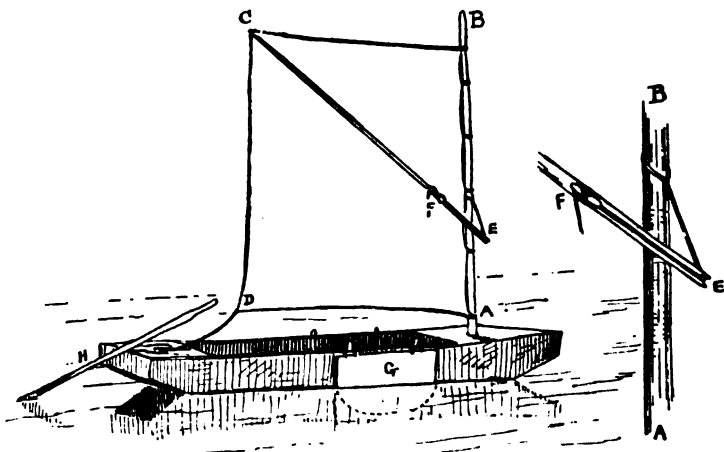
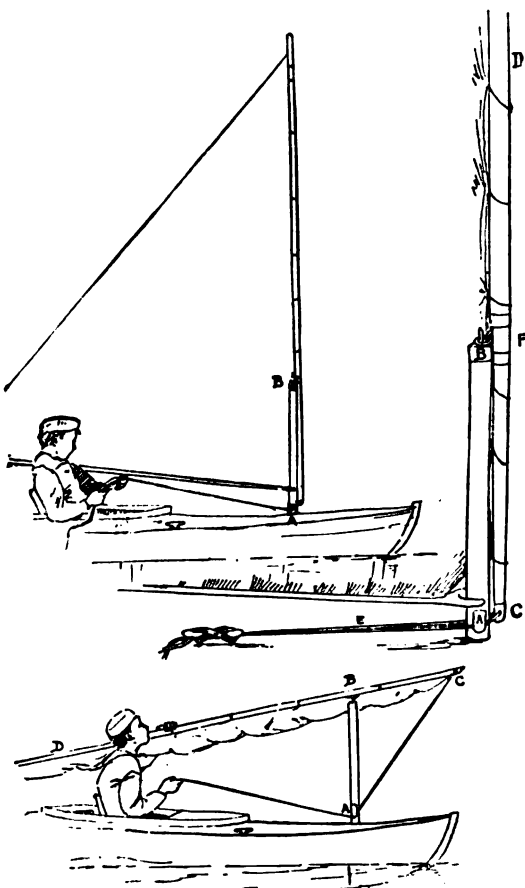
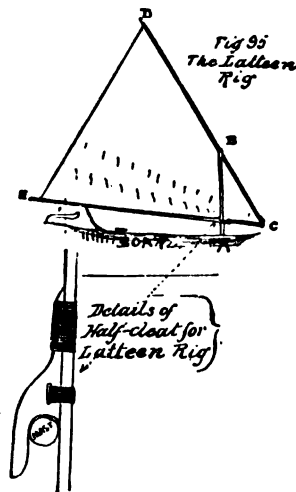

FIG. 92.
FIG. 94.—A New Device.
FIG. 95.—The Latteen Rig.
"I will suppose that the reader has the use of a broad, flat-bottomed boat without any rudder. (See Fig. 92.) She can-
“ Lace the luff of the sail to the mast so that its lower edge will swing clear by a foot or so of the boat’s sides. Make fast to the loop at D a stout line, ten or twelve feet long. This is called the ‘sheet,’ and gives control of the sail. The upper end of the sprit, C, E, is trimmed so that the loop at C will fit over it but not slip down. The lower end is simply notched to receive a short line called a ‘snotter,’ as shown in the detailed drawing at the right of the cut (Fig. 92). It will be readily understood that, when the sprit is pushed upward in the direction of C, the sail will stand spread out. The line is placed in the notch at E and pulled up until the sail sets properly, when it is made fast to a cleat or to a cross piece at F. This device is in common use and has its advantages, but a simple loop for the foot of the sprit to rest in is more easily made and will do nearly as well. H is an oar for steering. Having thus de-
"Fig. 94 shows a device, published for the first time in the *St. Nicholas Magazine* for September, 1880, which enables the sailor to step and unstep his mast, and hoist or lower his sail without leaving his seat—a matter of great importance when the boat is light and tottlish, as in the case of that most beautiful of small craft, the modern canoe, where the navigator sits habitually amidships. The lower mast (A, B, Fig. 94) stands about two and a half feet above the deck. It is fitted at the head with a metal ferrule and pin, and just above the deck with two half-cleats or other similar devices (A). The topmast (C, D) is fitted at F with a stout ring, and has double halyards (E) rove through or around its foot. The lower mast being in position (see lower part of Fig. 94), the canoeist desiring to make sail brings the boat's head to the wind, takes the top-mast with the sail loosely furled in one hand, and the halyards in the other. It is easy for him by raising this mast, without leaving
Then, holding the halyards taut enough to keep them in position, he will hook the topmast ring over the pin in the lower mast-head and haul away (see top part of Fig. 94). The mast will rise into place, where it is made fast. A collar of leather, or a knob of some kind, placed on the topmast just below the ring, will act as a fulcrum when the halyards are hauled taut, and keep the mast from working to and fro.
form is shown in Fig. 95. The arrangement for shipping and unshipping the yard is precisely like that shown in Fig. 94—a short lower mast with a pin at the top and a ring fitted to the yard. It has a boom at the foot which is joined to the yard at C by means of a hook or a simple lashing, having sufficient play to allow the two spars to shut up together like a pair of dividers. The boom (C, E) has, where it meets the short lower mast, a half cleat or jaw, shown in detail at the bottom of the cut (Fig. 95), the circle representing a cross section of the mast. This should be
the spread of sail when the wind becomes too fresh. If you will look at Fig. 95 you will see rows of short marks on the sail above the boom. These are 'reef-points'—bits of line about a foot long passing through holes in the sail, and knotted so that they will not slip. In reefing, the sail is lowered and that portion of it between the boom and the reef-points is gathered together, and the points are tied around both it and the boom. When the lower row of points is used it is a single reef. Both rows together are a double reef.
“Make your first practical experiment *with a small sail and with the wind blowing toward the shore*. Row out a little way, and then sail in any direction in which you can make the boat go, straight back to shore if you can, with the sail out nearly at right angles with the boat. Then try running along shore with the sheet hauled in a little, and the sail on the side nearest the shore. You will soon learn what your craft can do, and will probably find that she will make very little, if any, headway to windward. This is partly because she slides sidewise over the water. To prevent it you may use a 'lee-board'—namely, a broad board hung over the side of the boat (G, Fig. 92). This must be held by stout lines, as the strain upon it is very heavy. It should be placed a little forward of the middle of the boat. It must be on the side away from the wind—the lee side—and must be shifted when you go about. Keels and centre-boards are permanent contrivances for the same purpose, but a lee-board answers very well as a makeshift, and is even used habitually by some canoeists and other boatmen.
the end of the tiller. When the handle of the oar (H, Fig. 92)—or the tiller (F, Fig. 95) if a rudder is used—is pushed to the right, the boat will turn to the left, and *vice versa*. The science of steering consists in knowing when to push and how much to push—very simple, you see, in the statement, but not always so easy in practice.